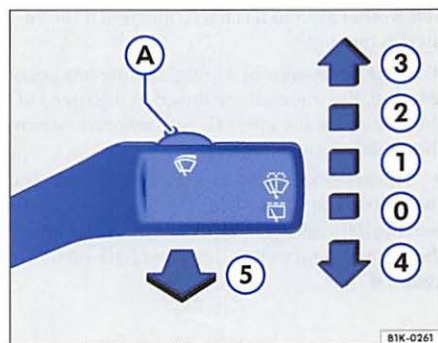

Fig. 44 Windshield wiper and windshield washing lever
windshield wiper lever ⇒ fig. 44 has the following settings:
- The previous wiping speed will be automatically selected when the vehicle stops, when wiping speed ⇒ page 49, fig. 44 ② or ③ is selected. The selected wiping speed will resume when the vehicle drives off again.
After the ignition is switched on, the headlights are washed the first time and then every fifth time the windshield washer system is used, when the windshield wiper lever $\Rightarrow$ page 49, fig. 44 ⑤ is pulled back towards the steering wheel – while the low or high beams are turned on. However, at regular intervals, for example when refueling, stubborn dirt (such as insect remains) should be removed from the headlight lenses.